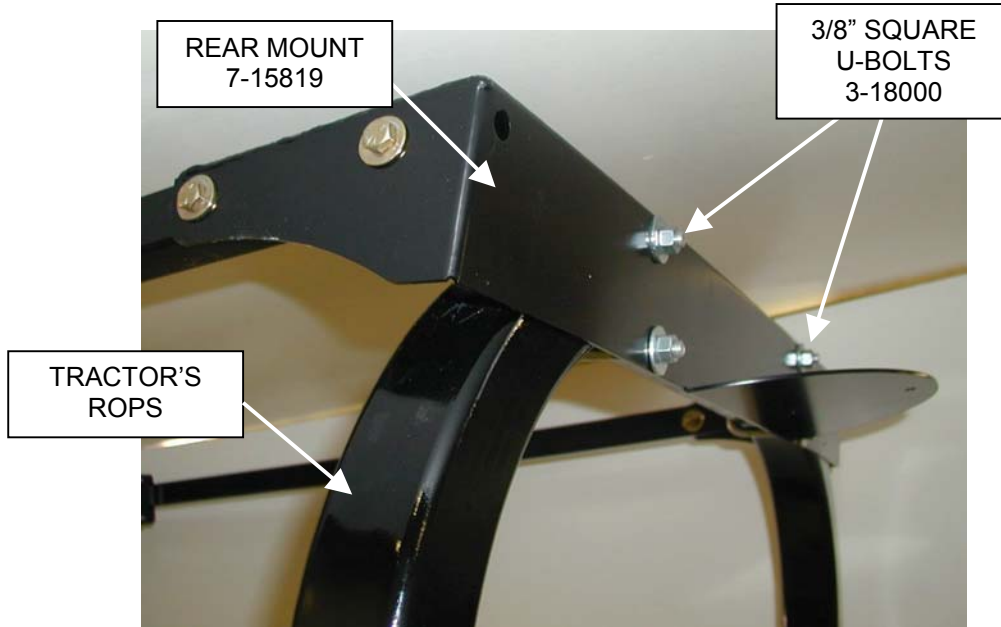

Figure 5
- Secure the back of the frame structure onto tractor ROPS (Roll bar). Center and secure with (2) 3/8" square U-bolts 3-18000. See Figure 5.